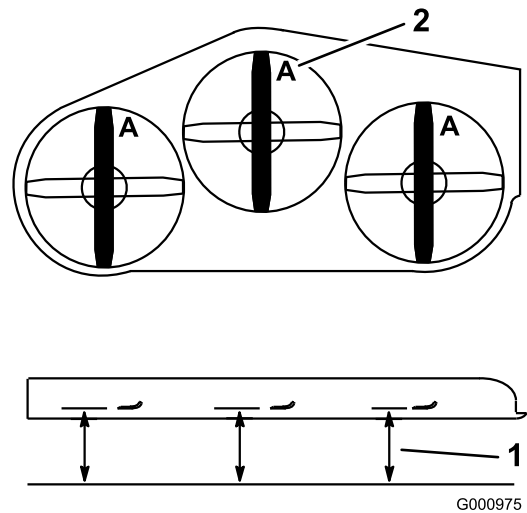

Figure 92
3. With the machine on level surface, position one blade front-to-rear. Measure at **A** and from level surface to the cutting edge of the blade tips (Figure 92).